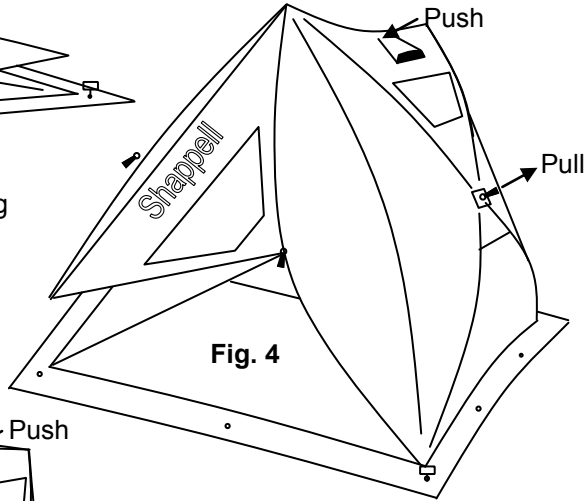

Fig. 4
4) Pull out side hub while pushing against top center. (Fig. 4)